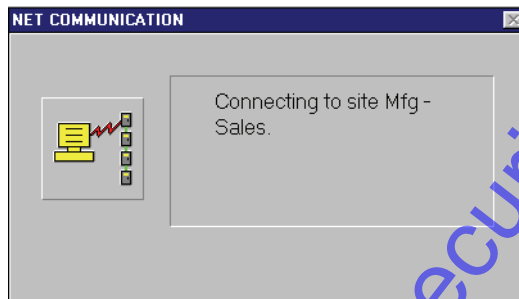

Figure 8-18: Connecting To The Network
4. If you have chosen to continue with the update, once all parameters are collected, the host computer connects to the access control network. The Network Communication window appears (see Figure 8-18).